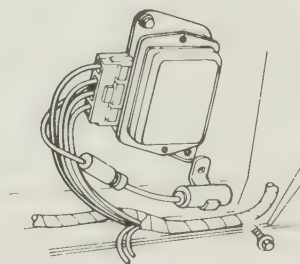

Fig. 13.133 Voltage regulator interference suppressor
- 79 A capacitor should be fitted between the live (+) terminal on the ignition coil and ground, also at the voltage regulator as shown in Fig. 13.133.